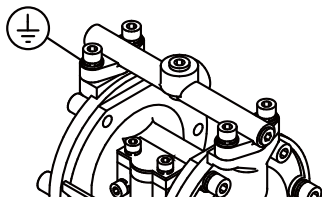

Figure 15
1. When installing the pump, be sure to connect the ground wire at the specified position. For the specified position for connecting the ground wire (See Figure 15).